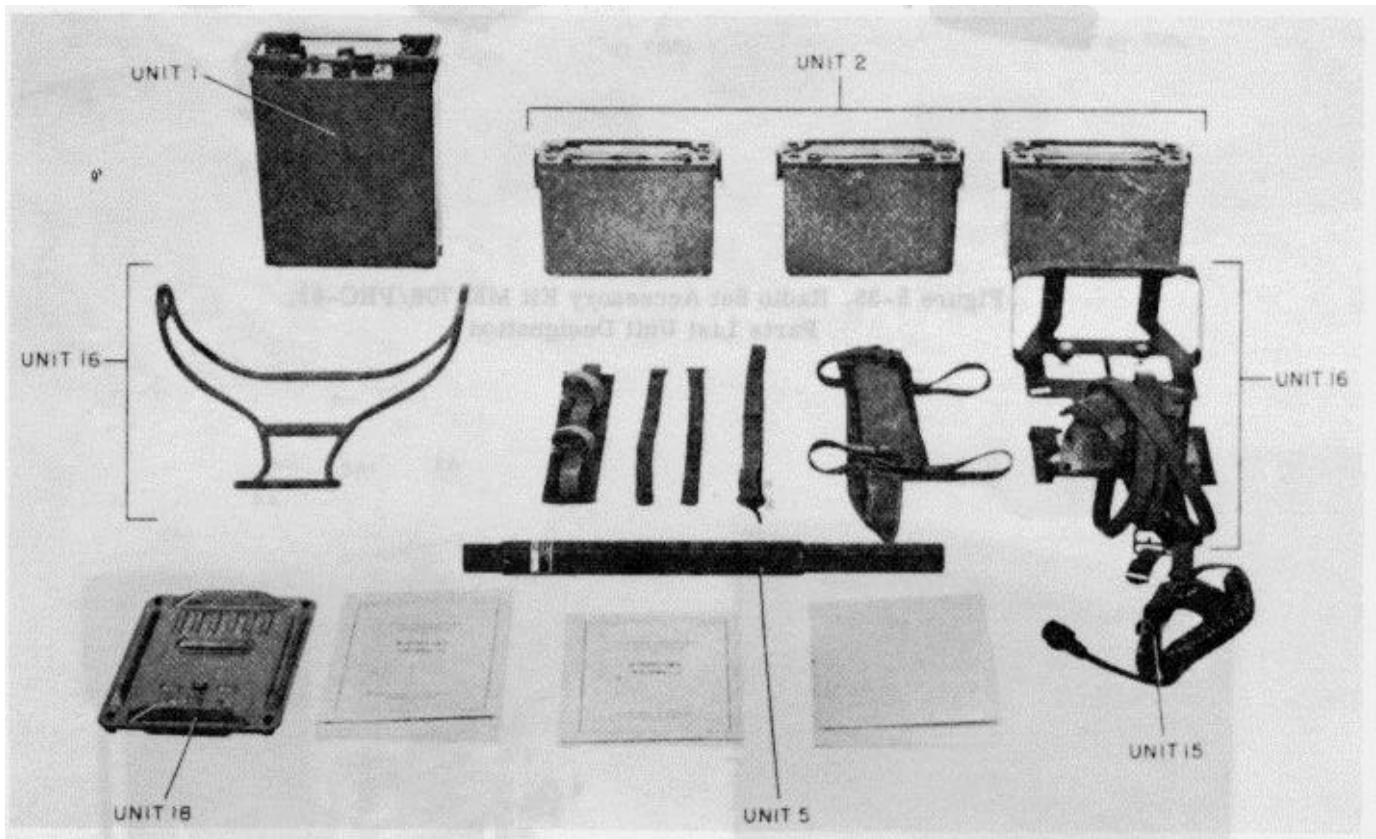

Figure 5-34. Radio Set AN/PRC-41, Parts List Unit Designation
a. Refer to figures 5-34 through 5-81 for location and identification of detail parts, adjustments,